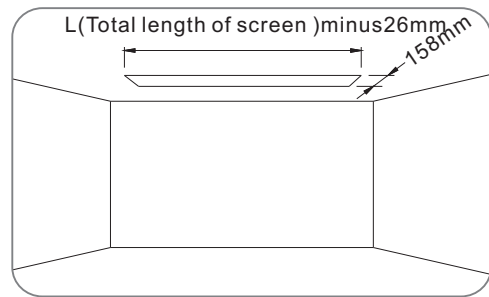
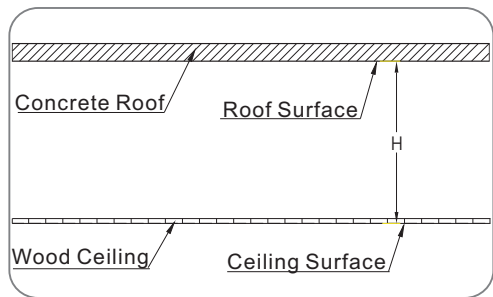

Figure1
Figure2
1. Saw an oblong groove at a required position (figure 1); Please measure the distance H between concrete roof and ceiling surface correctly (figure 2).